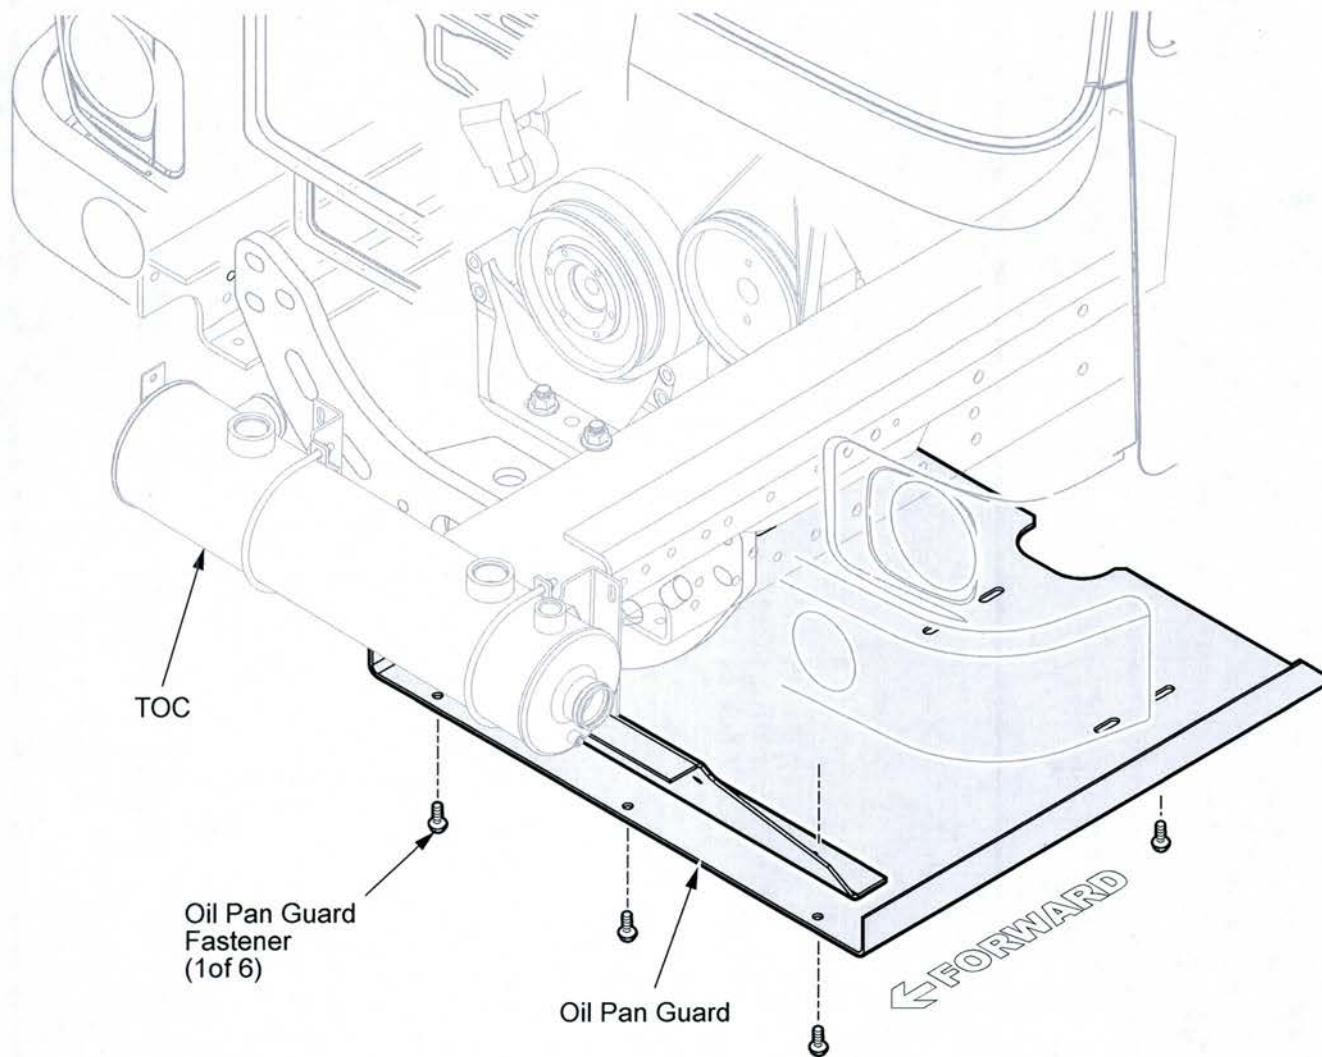

Figure 1
4. If equipped with an oil pan guard (skid plate), remove the 6 fasteners and set aside (fasteners and oil pan guard) for reinstallation (see Figure 1).